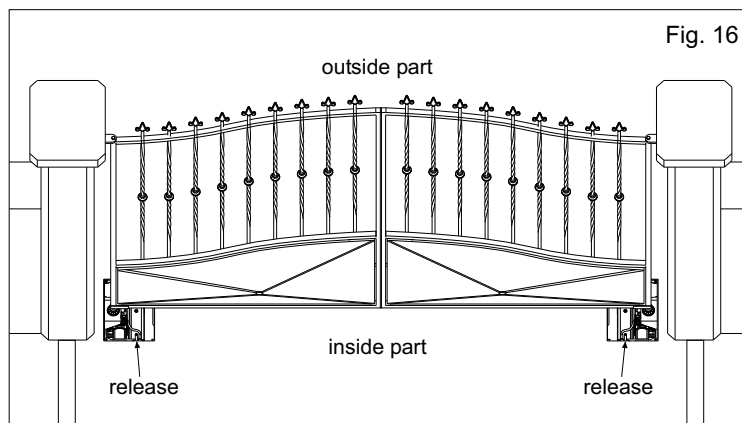

Fig. 16
4.2. It is important to identify the right operator and the left operator, in any case the release system must be always placed inside the place of residence. Make reference to Fig. 16.